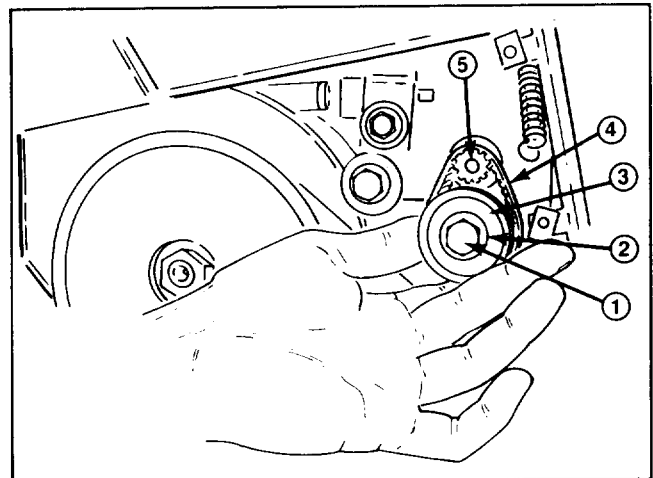

Figure 19
3. Remove bolt (left hand thread) by turning bolt clockwise, remove (2) washers, and small pulley (Fig. 19). Remove and discard small belt.
4. Slide (2) washers onto bolt. Insert bolt through small pulley. Bolt must ride on bearings in small pulley.
6. Slide belt over motor shaft pulley (Fig. 19).